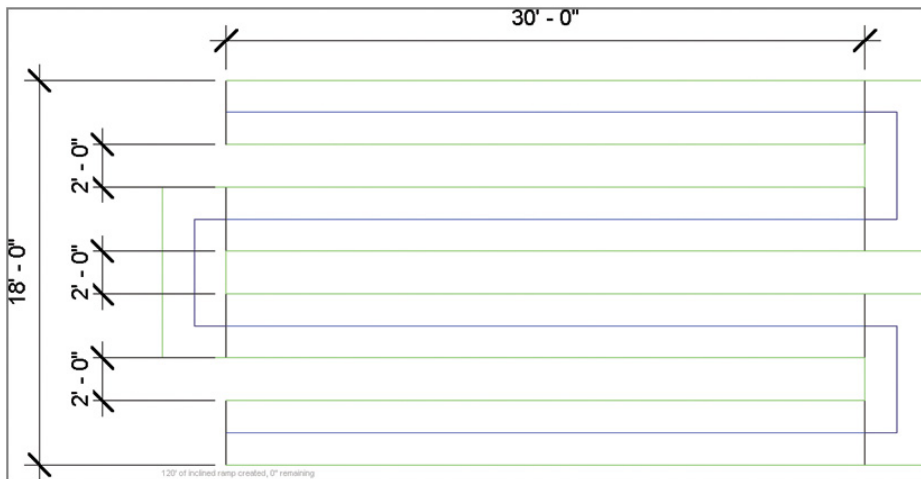

FIGURE 4.23 Straight runs of ramps
1. Sketch the straight runs as shown in Figure 4.23. To get all the landings and ramps into the right location, you can select them as if they were linework and move them using the Move tool on the Modify panel.